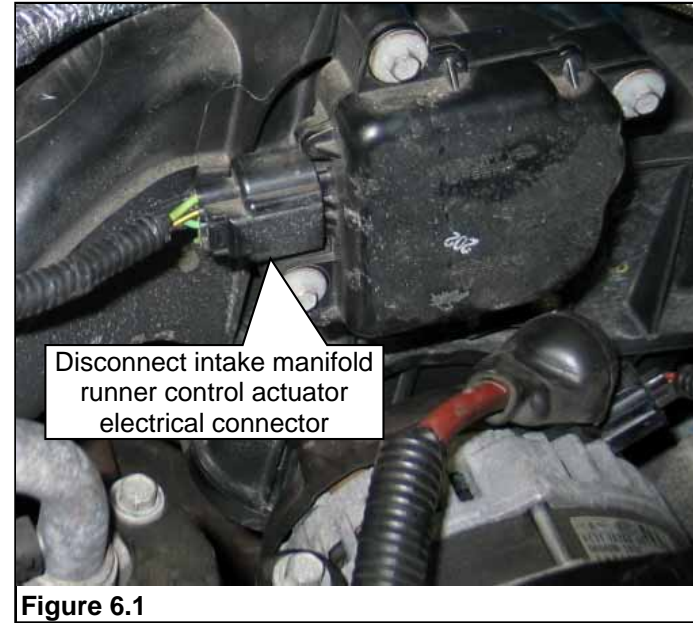

Figure 6.1
1. If necessary, disconnect the intake manifold runner control (IMRC) actuator electrical connector. **Figure 6.1.**